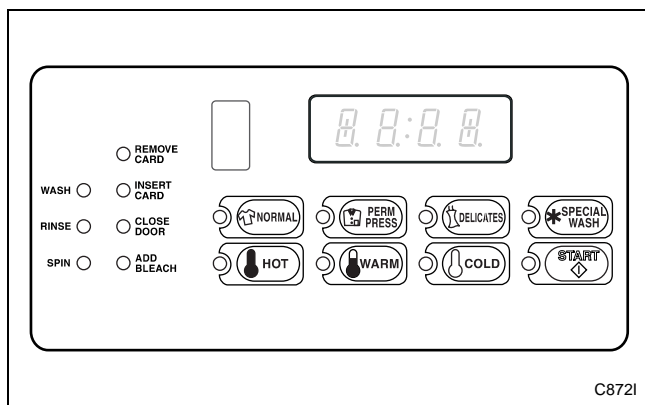

Figure 2
When power is applied to the washer, the control will display INSERT COINS/CARD, the decimal point and the vend price. The INSERT COINS/CARD light will remain lit until the vend price has been satisfied. The default cycle setting is PERM PRESS, the default wash water fill temperature is WARM and the default rinse water temperature is COLD. The LEDs will be lit on PERM PRESS and WARM at the start of the cycle. Refer to *Figure 2*. These default settings are owner programmable. Refer to *Programming NetMaster*.
When a cycle is complete, the control will display “:00” until the washer-extractor door is opened, a key is pressed or a coin/card is entered. When one of these three options occurs, the display will revert back to the Ready Mode. Refer to *Figure 2*.
This feature allows the user to return NetMaster back to the Ready Mode if coins or a card have been entered but the full vend price has not yet been satisfied. Refer to *Figure 2*.
1. Be sure the washer-extractor is in the Ready Mode before continuing to step 2. Refer to *Figure 2*. If the washer-extractor is in an active cycle, rapid advance through the cycle. Refer to **Rapid Advance Feature**. If coins have been entered, refer to **Clear Vend Feature**.